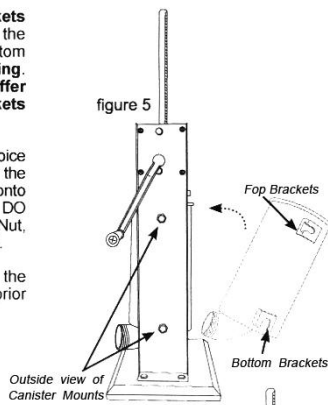

figure 6
8. Insert the **Stuffing Funnel** of choice through the **Front Ring Nut**. Screw the **Front Ring Nut** and **Stuffing Funnel** onto the mouth of the **Canister** until snug. DO NOT OVERTIGHTEN the **Front Ring Nut**, as it may damage the **Funnel** (figure 6).